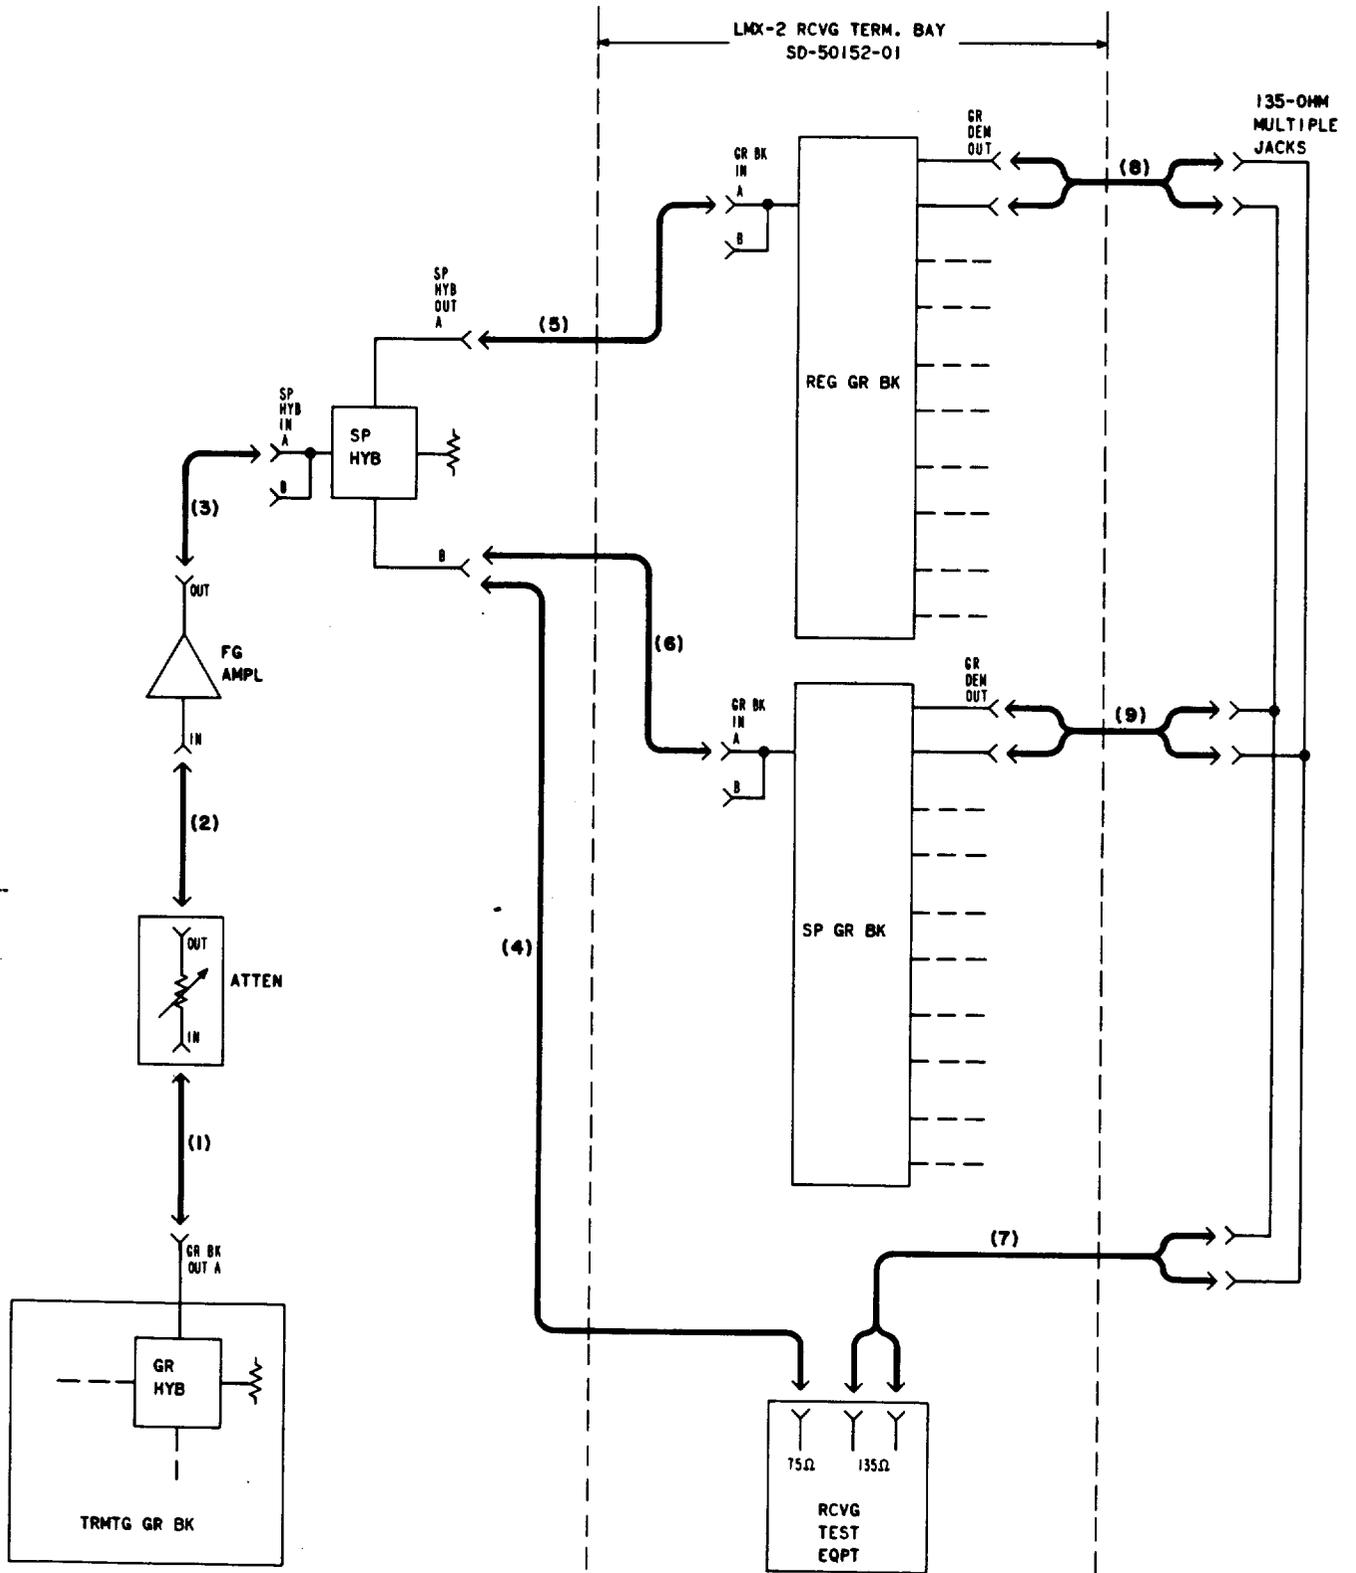

Fig. 1—Receiving Group Bank Circuits—Turnover Tests
- 3 Make patches designated (1), (2), (3), and (4) in Fig. 1 to a spare or out-of-service transmitting group bank.
- 4 Make patch designated (5) in Fig. 1 to a regular receiving group bank.
9	<p>Remove patch designated (4) in Fig. 1.</p>
10	<p>Make patch designated (6) in Fig. 1 to a spare receiving group bank.</p>
12	<p>Make patches designated (7) and (8) in Fig. 1.</p>
16	<p>Remove patch designated (8) in Fig. 1.</p>
17	<p>Make patch designated (9) in Fig. 1 to a corresponding spare group demodulator circuit.</p>
19	<p>Make patch designated (8) in Fig. 1.</p>
22	<p>Remove patch designated (9) in Fig. 1 as the initial step in verifying correction of the wiring turnover.</p>